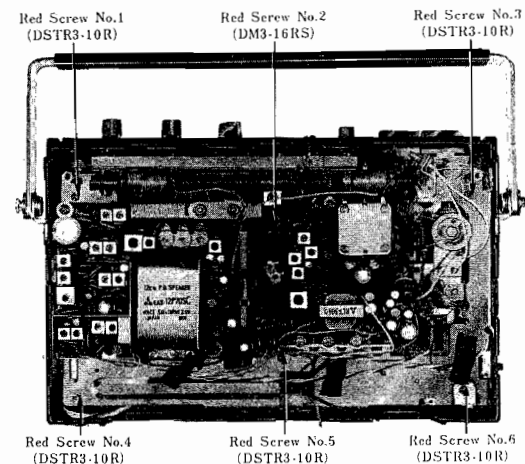

Fig. 2
3. Remove six (6) red chassis-mounting screws, Nos. 1~6, as illustrated in Fig. 2.